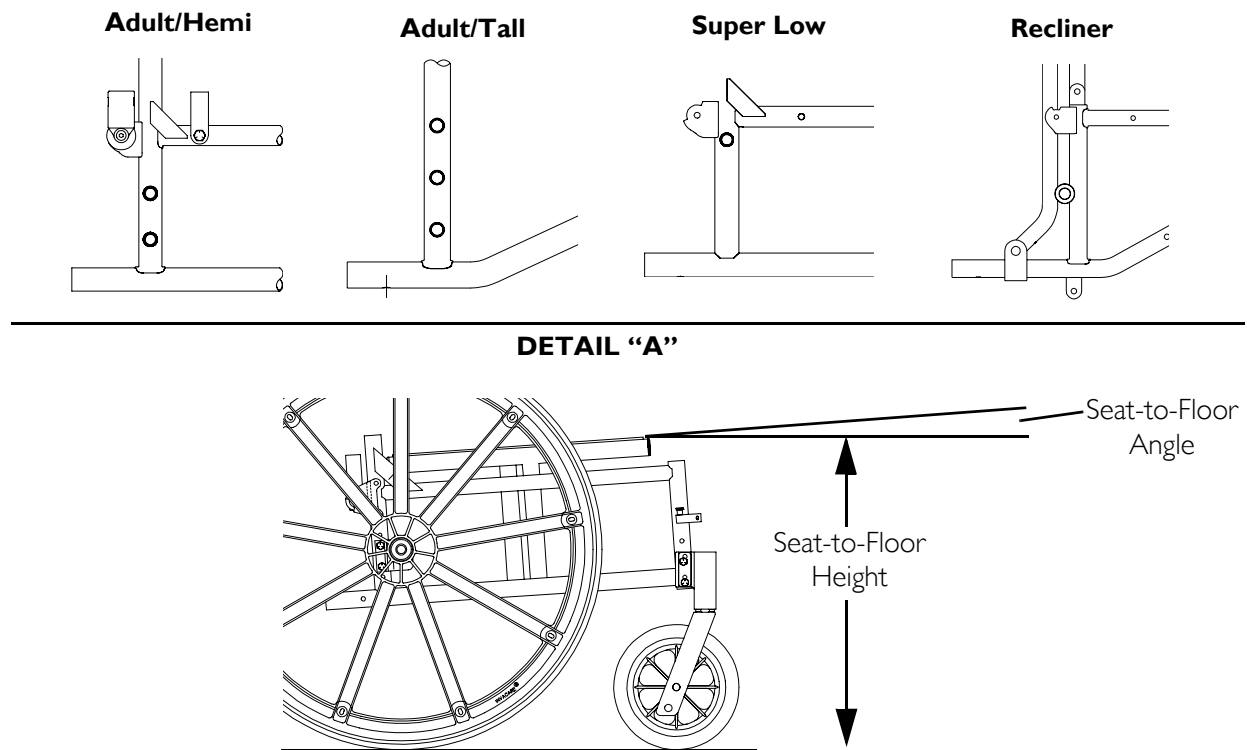

FIGURE 5.1 Changing Seat-to-Floor Height/Seat-to-Floor Angle
NOTE: For this procedure, refer to FIGURE 5.1.
1. Determine the model and frame style of your wheelchair. Refer to the following chart and FIGURE 5.1.